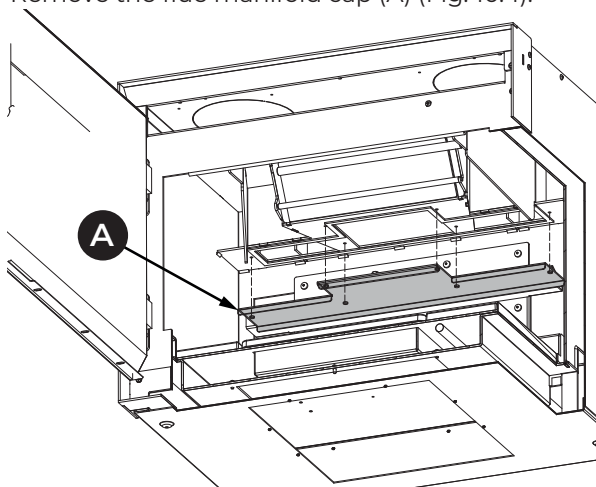

Fig. 10.4
Remove the flue manifold cap (A) (Fig. 10.4).